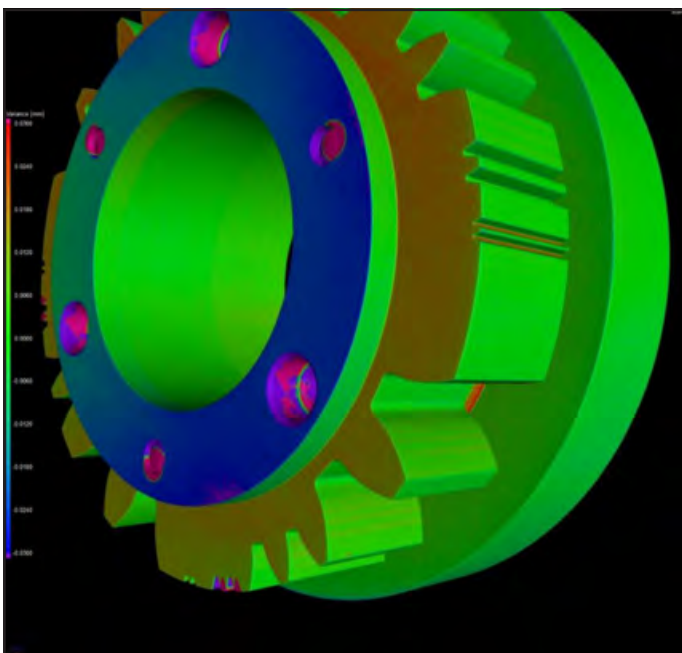

Figure 6 Target/actual comparison of the CT measurement regarding the CAD model.
- Comparison with the CAD model (see Figure 6)